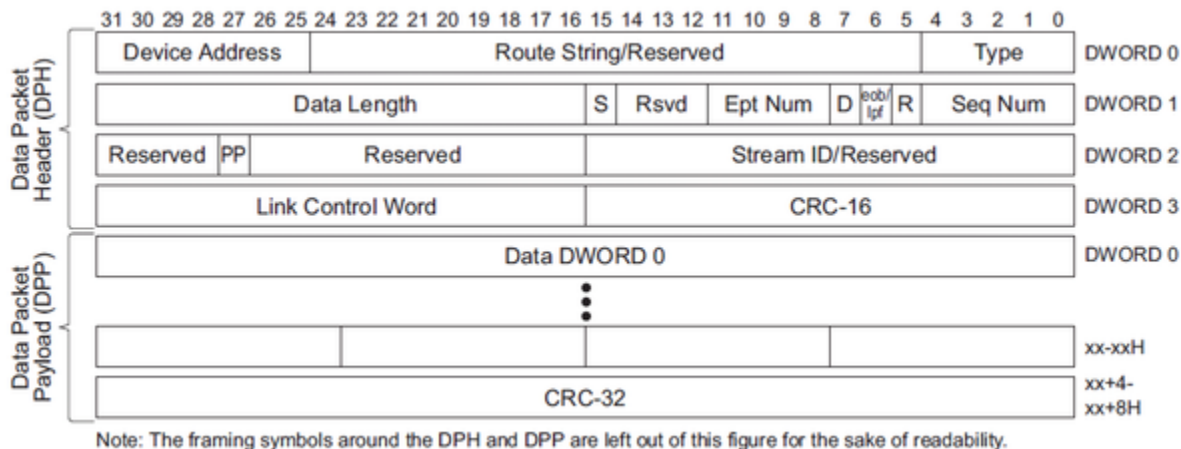

Figure 20 : Data Packet (DP)
Data Packets (DP) are used to transmit application data and are comprised of two parts: a data packet header (DPH) and a data packet payload (DPP) (Figure 20).